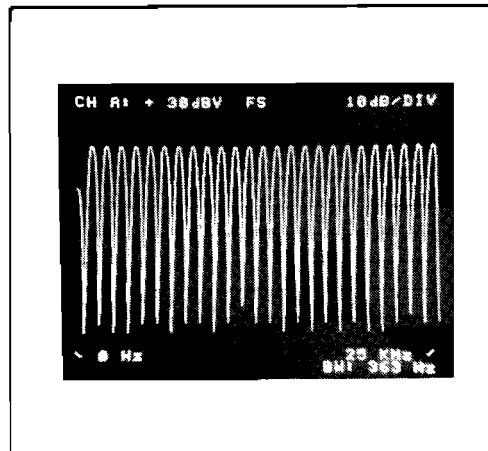

Figure 8-1. The Channel A CAL Signal.
d. If the instrument produces a display as shown in Figure 8-1, then fundamental operation can be assumed and specific operating problems can be pursued. In this case, if the areas of deficiency in performance are known, go to the Troubleshooting Hints and see if the problem is listed. If it is not listed, proceed to the Self Test Section.